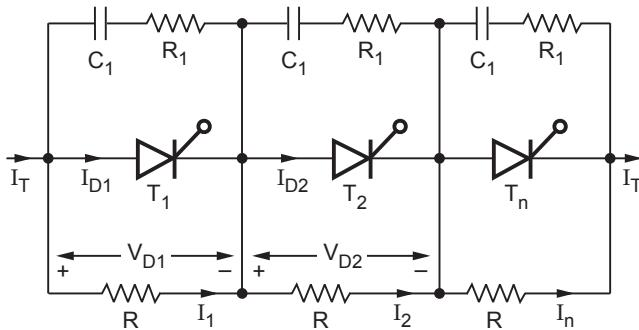

Fig. 1.14.1
- The R_2 -C network will also act as a snubber network to limit the rate of rise of voltage across the thyristor at switch-on. The circuit arrangement for dynamic voltage equalization is shown in Fig. 1.14.1